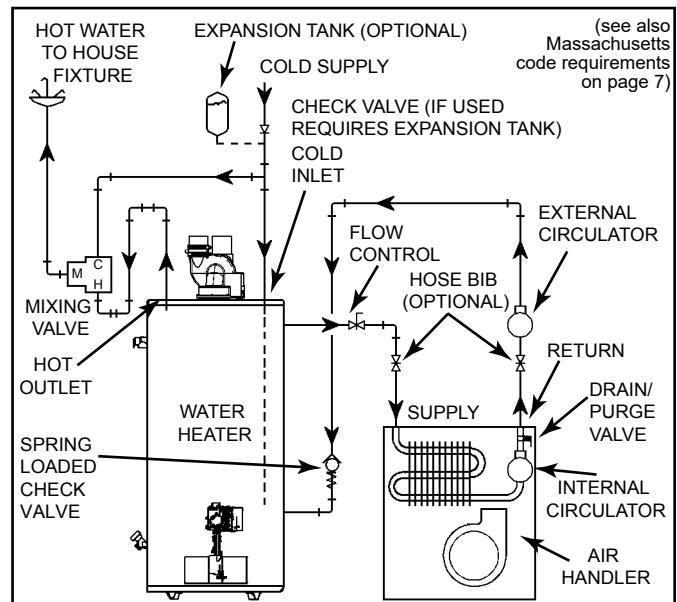
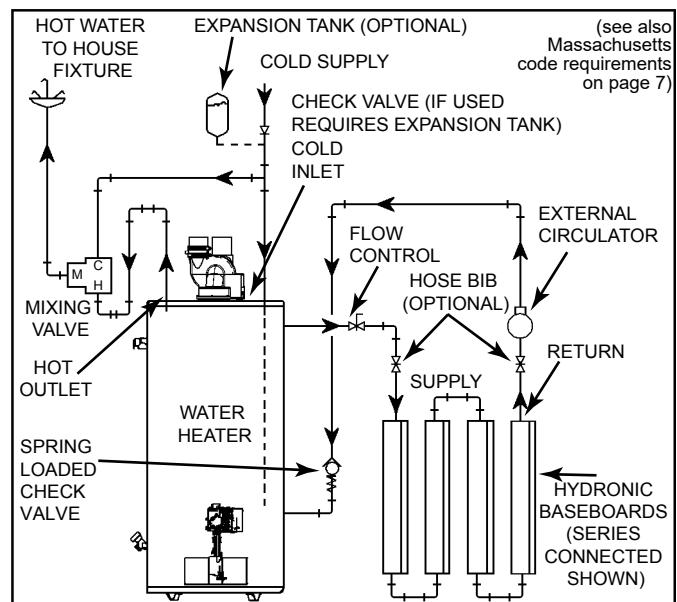

Figure 14.
Figure 15.
8. "Combo" Heating Systems require higher water temperatures than other applications. When the system is used to supply water for Combo Heating applications, a means, such as mixing valve, must be installed to temper the water in order to reduce scald hazard potential (see Figure 14 and Figure 15).
- A. A fan coil/air handler (Figure 14).
- B. A hydronic baseboard (finned tube) loop/in floor heating (Figure 15).